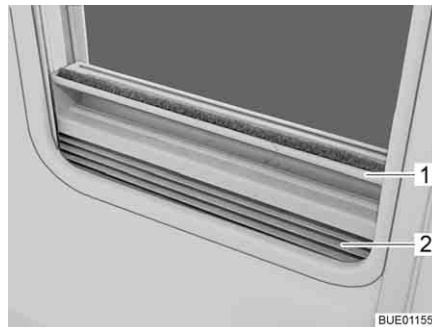

Fig. 45 Roman shade
- Grip the Roman shade (Fig. 45,2) in the middle of the holding bar (Fig. 45,1), pull it upwards and then release it at the desired height. The Roman shade will stay at this height.